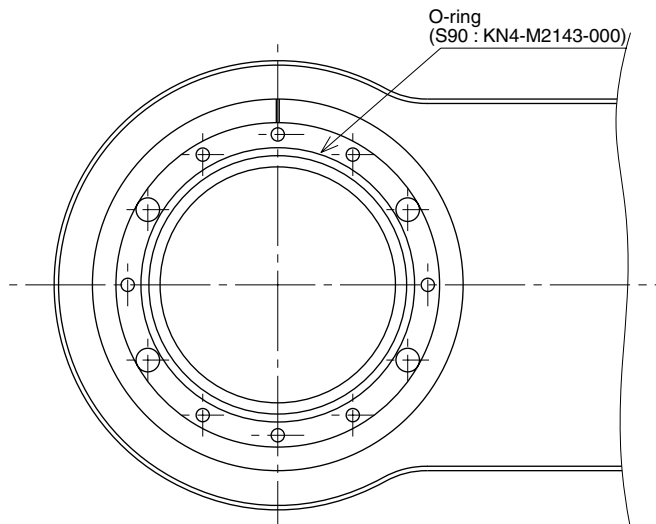

Fig. 5-44
AN O-RING IS FITTED TO THE UPPER SURFACE OF THE X-AXIS, SO BE CAREFUL NOT TO LET IT DROP INTO THE PERIPHERAL UNIT. (SEE FIG. 5-44.)
- 13) Fit a new O-ring coated with harmonic grease into the O-ring groove on the X-axis arm. (See Fig. 5-44.)